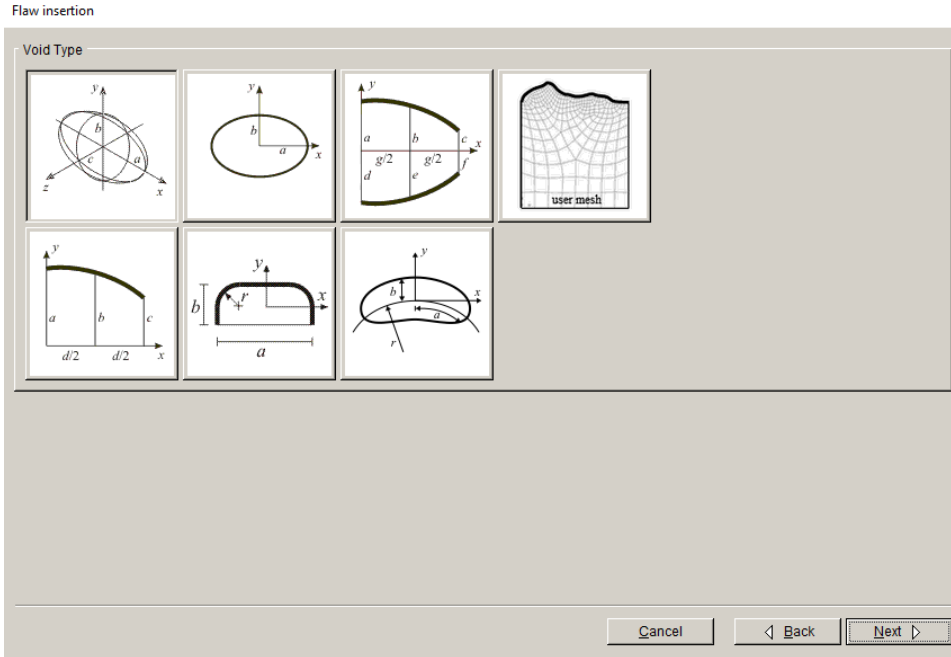

Figure 6.1.20 New Flaw Wizard void (finite volume flow) types.
- 1) ellipsoid – top left icon in Fig 6.1.20,